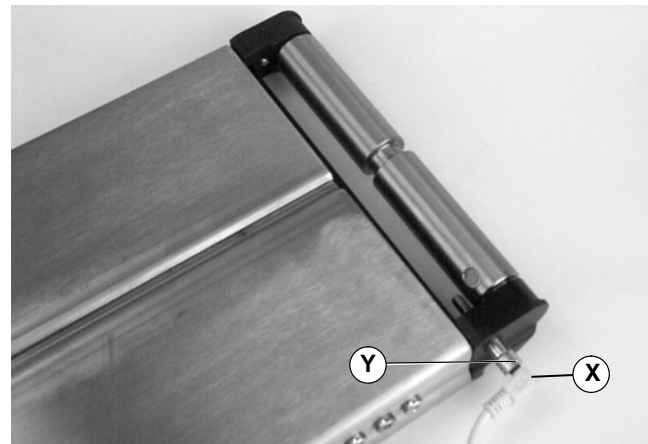

Figure 15
1. Loosen connector nut (Y of Figure 15). Remove wire disconnect (X).